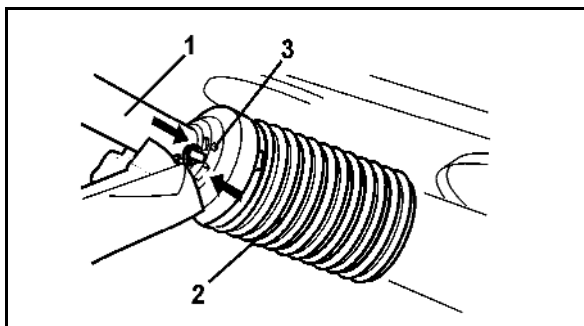

Fig. 58
9. Fit the guard half (Fig. 58/1).
10. Turn the PTO shaft guard (Fig. 58/2) to the block position.
11. Screw in the locking screw (Fig. 58/3).